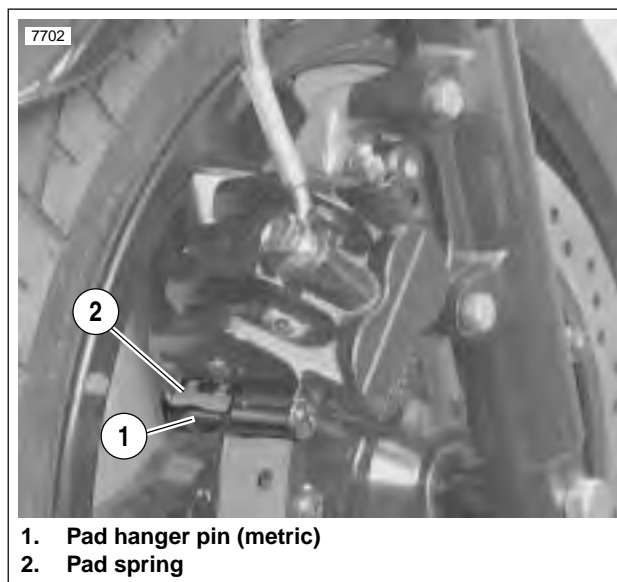

Figure 2-42. Pad Spring
3. See Figure 2-42. Install brake pads.
- a. Install pad spring (2) with opening at top as shown.
- d. See Figure 2-42. Install pad hanger pin (1) (metric). Tighten to 132-180 in-lbs (15-20 Nm).